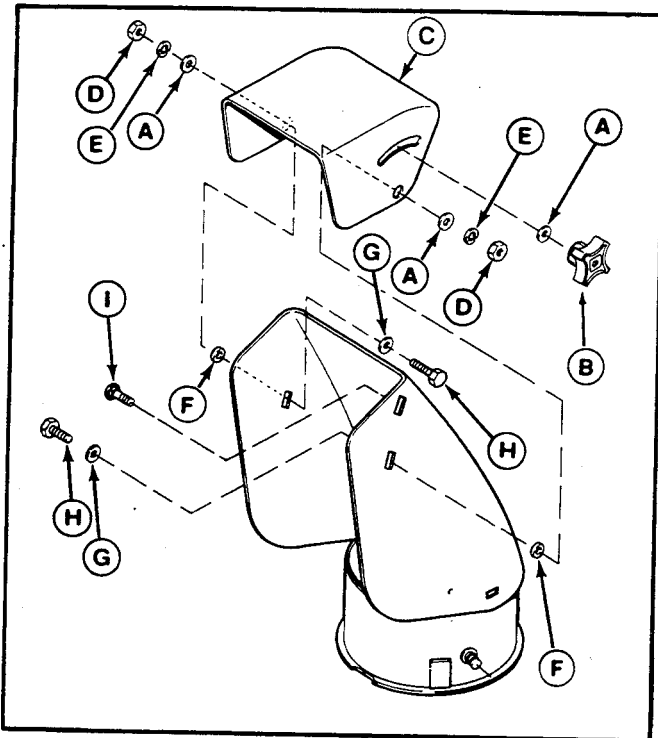
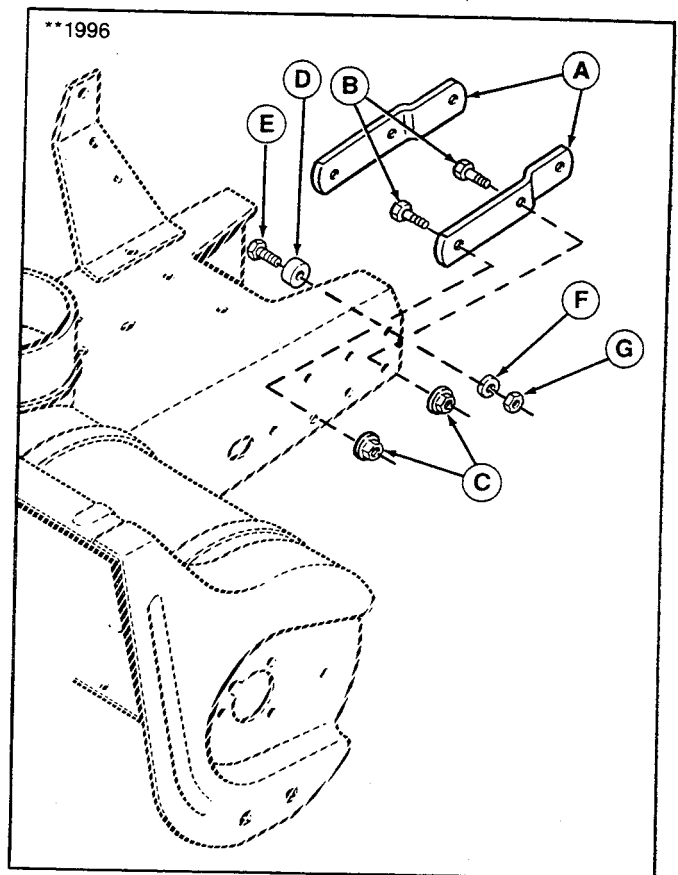

Figure 18. Install Deflector
Figure 19. Install Brackets and Spacers
7. Attach the deflector (C, figure 18) to the spout extension with two screws (H), washers (G), spacers (F), washers (A), lockwashers (E) and nuts (D).
8. Position the bolt (I) and washer (A) and then thread the knob (B) onto the bolt (I).
9. Install the two snowthrower hitch brackets (A, figure 19) and secure with 1" capscrows (B) and flange locknuts (C).
10. Install the two spacers (D) above brackets (A) and secure with 1-1/4" capscrows (E), lockwasher (F) and nuts (G).